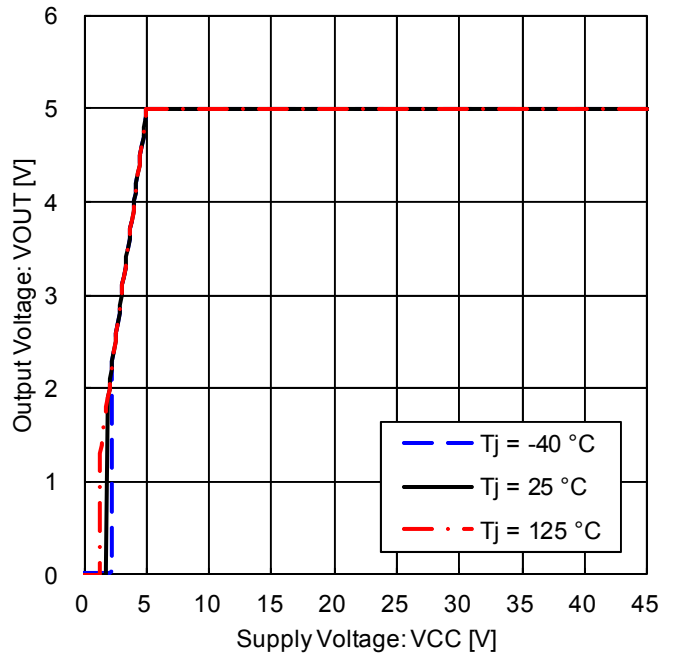

Figure 24. Output Voltage vs. Power Supply Voltage (IOUT = 0 mA)
*Magnified Figure 24. at low supply voltage
Measurement Setup for Figure 6, 8, 14, 15, Figure 24, 26, 32, 33